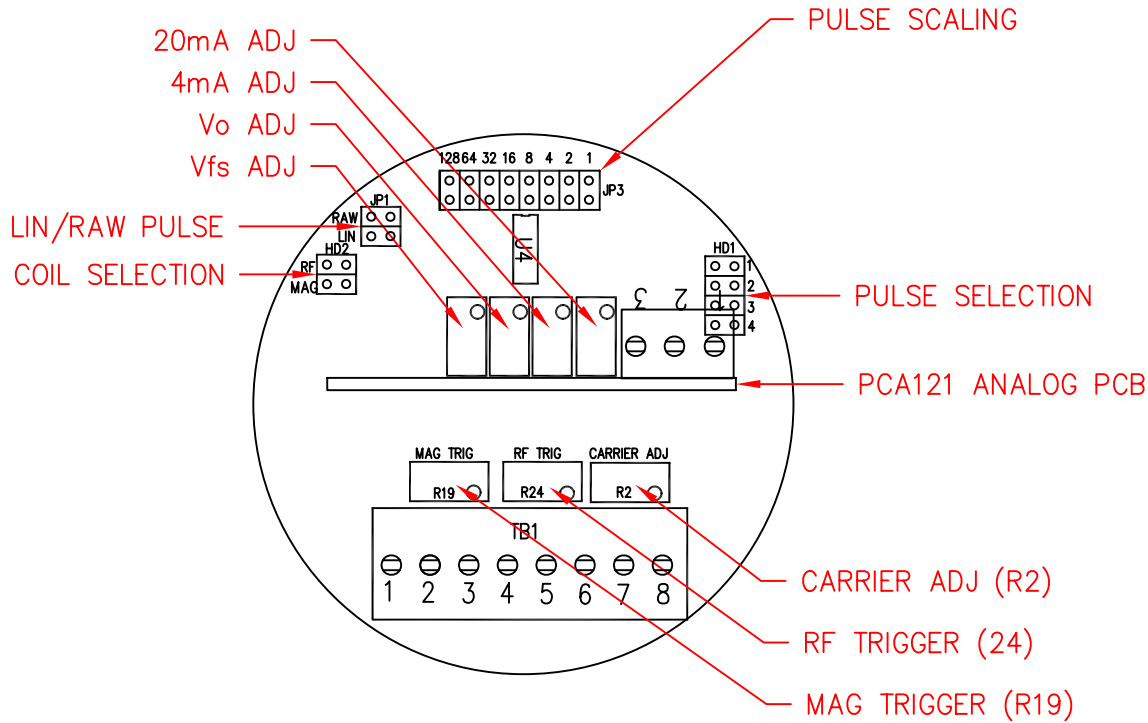

FIGURE 3
1. SET JUMPER HD2 (SEE FIGURE 3) TO THE RF POSITION.
2. CONFIGURE JUMPER HD1 (SEE FIGURE 3) TO THE DESIRED PULSE OUTPUT AS FOLLOWS:
3. INSTALL PICKUP (E.G. IN METER) AND PROVIDE POWER TO PA1001A. USE A DIGITAL VOLTMETER SET TO DC VOLTAGE AND ATTACH THE POSITIVE LEAD TO TERMINAL 6 AND THE COMMON LEAD TO TERMINAL 2. ADJUST THE CARRIER ADJUSTMENT (R2) (SEE FIGURE 3) TO A READING OF 3.00 VDC TO FINE-TUNE THE PICKUP FOR AIR GAP, WALL THICKNESS, ETC.
4. WITH POWER STILL SUPPLIED TO PA1001A DETERMINE IF A PULSE OUTPUT IS BEING GENERATED IN THE ABSENCE OF MOTION. ADJUST THE RF TRIGGER (R24) (SEE FIGURE 3) CW UNTIL THE FALSE PULSATION HAS STOPPED. IF PULSATION CONTINUES WHEN ADJUSTED FULLY CW, CHECK THAT ALL SHIELDS HAVE BEEN PROPERLY TERMINATED AND GROUNDED.
7. ANALOG OUTPUT OPTION (FIGURE 3):
1. SET JUMPER HD2 (SEE FIGURE 3) TO THE MAG POSITION.
3. INSTALL PICKUP (E.G. IN METER) AND PROVIDE POWER TO PA1001A. DETERMINE IF A PULSE OUTPUT IS BEING GENERATED IN THE ABSENCE OF MOTION. ADJUST THE MAG TRIGGER (R19) (SEE FIGURE 3) CW UNTIL THE FALSE PULSATION HAS STOPPED. IF PULSATION CONTINUES WHEN ADJUSTED FULLY CW, CHECK THAT ALL SHIELDS HAVE BEEN PROPERLY TERMINATED AND GROUNDED.
6. ANALOG OUTPUT OPTION (FIGURE 3):